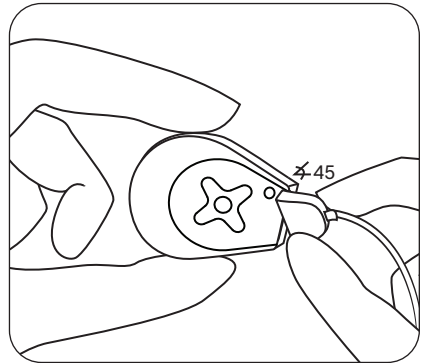

figure 8A: Insert power controller wire at 45° angle
Connect the power controller wire to a single applicator by inserting the power controller wire jack into the matching cavity at the base of the applicator. See figure 8A/8B on page 18 for attachment instructions.
- A. Insert the *power controller wire* into the matching cavity at the base of the applicator at a 45 degree angle (Figure 8A).